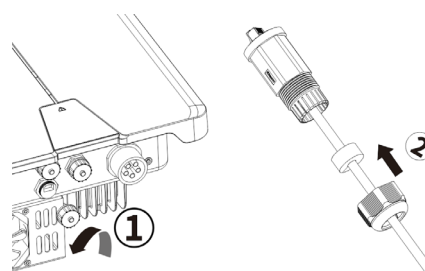

Fig. 31. Insert the network cab
2. Unscrew the cover cap of the communication port (see Fig. 31 sequence and observe arrow directions) and insert the network cable into the attached RS485 communication client.